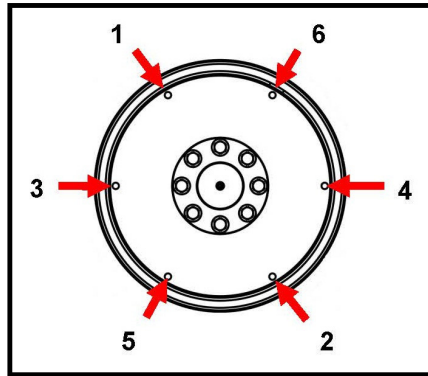

FIGURE 15. FIXING SEQUENCE
10. Tighten the bolts to fix the coupling disc to the flywheel in the sequence shown in Figure 15 on page 27.